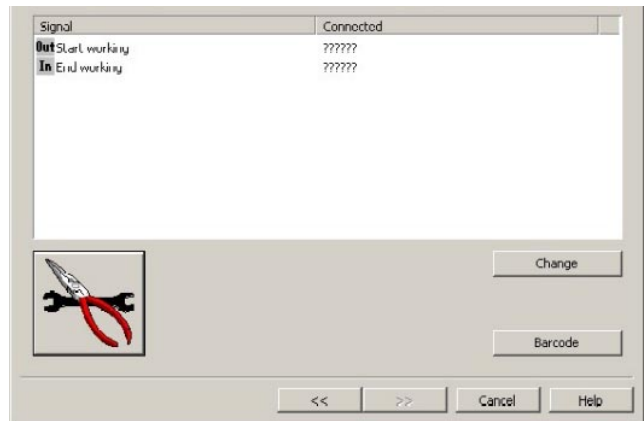

Figure 24
f. If the optional SEALCHECK is installed on the PAWO, select the tool icon button. See Figure 24.